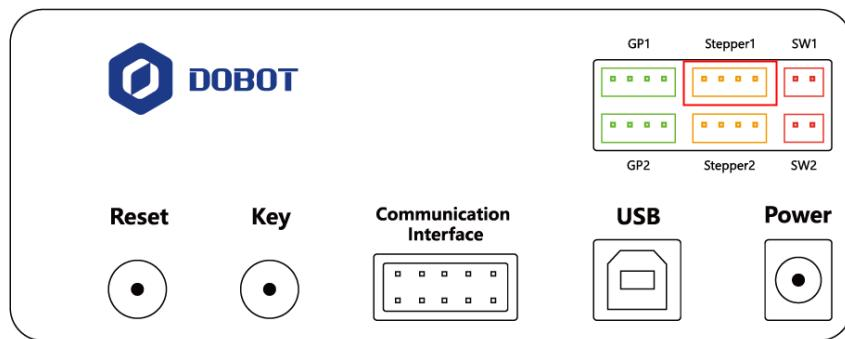

Figure 5.81 Connect with extruder
**Step 6** Connect the extruder to the **Stepper1** interface on the back of the base with motor cable, as shown in Figure 5.81.